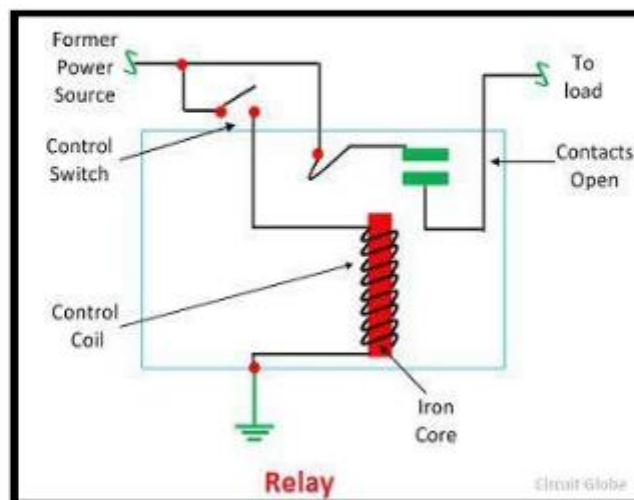

Figure 2.22: Working principle of relay
- b. The inside of the relay is shown in the Figure 2.22 below. It has an iron core wound by a control coil. Power is supplied to the coil through the load and the contacts of the control switch. The current flowing through the coil generates a magnetic field around the coil.